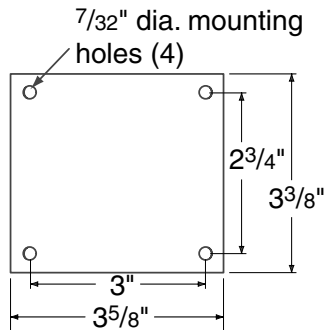

Figure 1
- ① Use mounting plate to mark attachment holes on ceiling, Adaptor Bracket for LCD Lift or Lower Pan of Scissor Lift or Micro Projector Lift. Drill holes and attach mounting plate to ceiling (see Fig. 1).